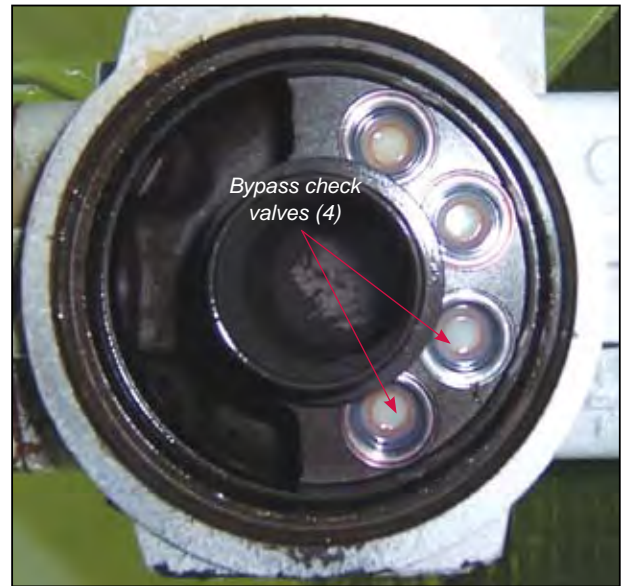

Fig. 4-20 Compressor Fluid Filter
NOTE: When filter element is changed, it is important to check that all four (4) Bypass check valves are in place. (refer fig 4-20). This is done by looking up into the Filter head from the underneath side once the filter bowl and element have been removed. Inspect/check all four (4) by-pass valves in housing for cracks, chips or damage. There must be a by-pass check in all four (4) ports, if missing and the port is open then there will be no filtration occurring of the compressor fluid. Replacement valve part number V0125559.